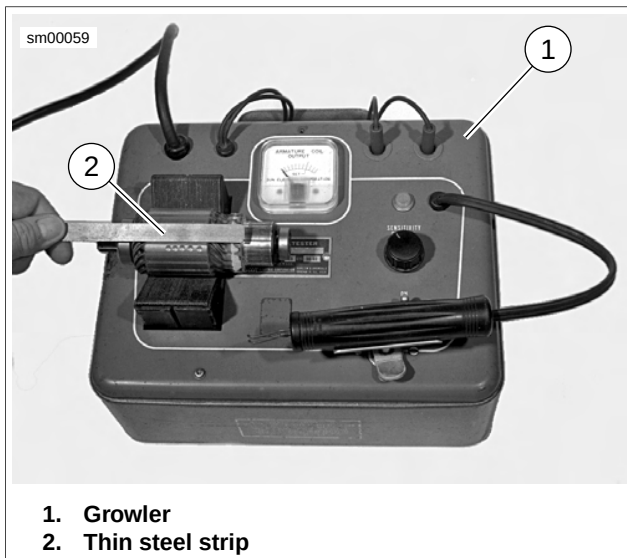
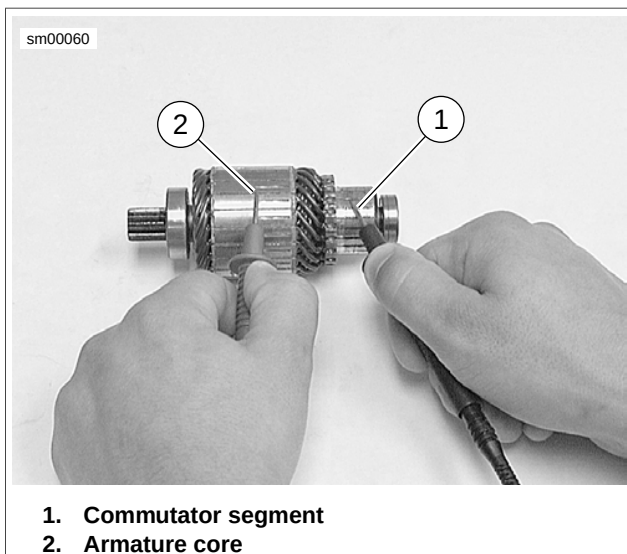
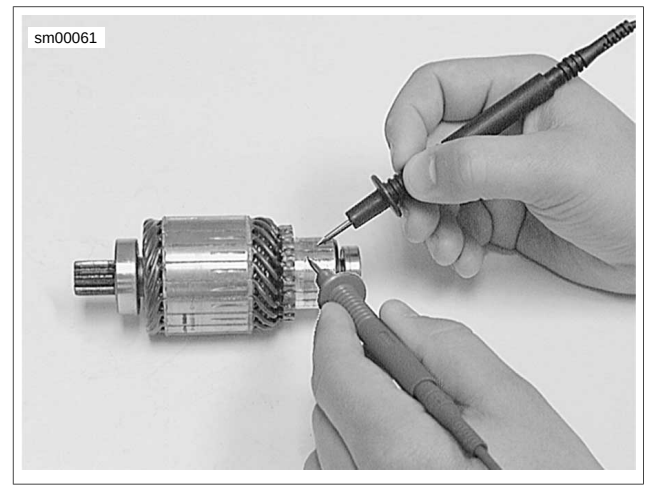

Figure 5-7. Shorted Armature Test Using Growler
Figure 5-8. Grounded Starter Armature Test
Figure 5-9. Open Starter Armature Test
10. See Figure 5-7. Check for SHORTED ARMATURE with a growler.
- a. Place armature on growler (1).
- b. Hold a thin steel strip (2) (hacksaw blade) against armature core and slowly turn armature.
11. See Figure 5-8. Check for a GROUNDED ARMATURE with an ohmmeter or continuity tester.
- a. Touch one probe to any commutator segment (1).
- b. Touch the other probe to the armature core (2).
12. See Figure 5-9. Check for OPEN ARMATURE with an ohmmeter or continuity tester.